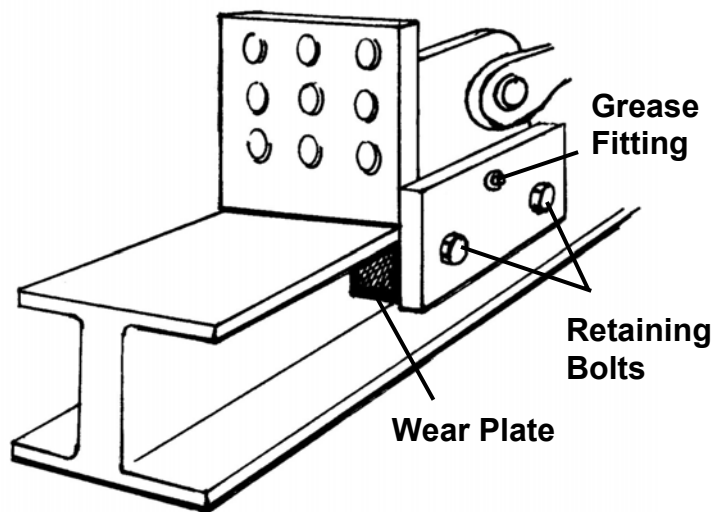

Figure 21
1. The Push Block should be lubricated daily to reduce wear on the H-Beam and sides. Use #2 Lithium grease on the fittings, one on each side (*Figure 21*).
Note: Replace the Push Block Wear Plates (one on each side) if the Push Block can be raised more than 1/4" off the H-Beam. Use a 9/16" wrench to remove the retaining bolts (*Figure 21*).